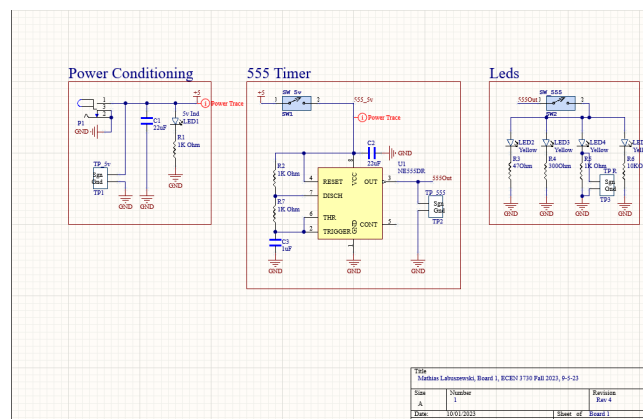

Figure 2: Schematic of Board 1
- The schematic was designed with the block diagram in mind. Using some shapes we can outline each block diagram and make it easier to read. (Figure 2)